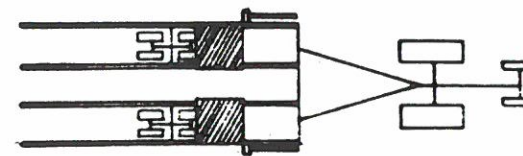

FIGURE 16
3. Engage PTO. Operate power take off until the first pair of bales move back clear of the fork. See Fig. 16. Stop PTO.